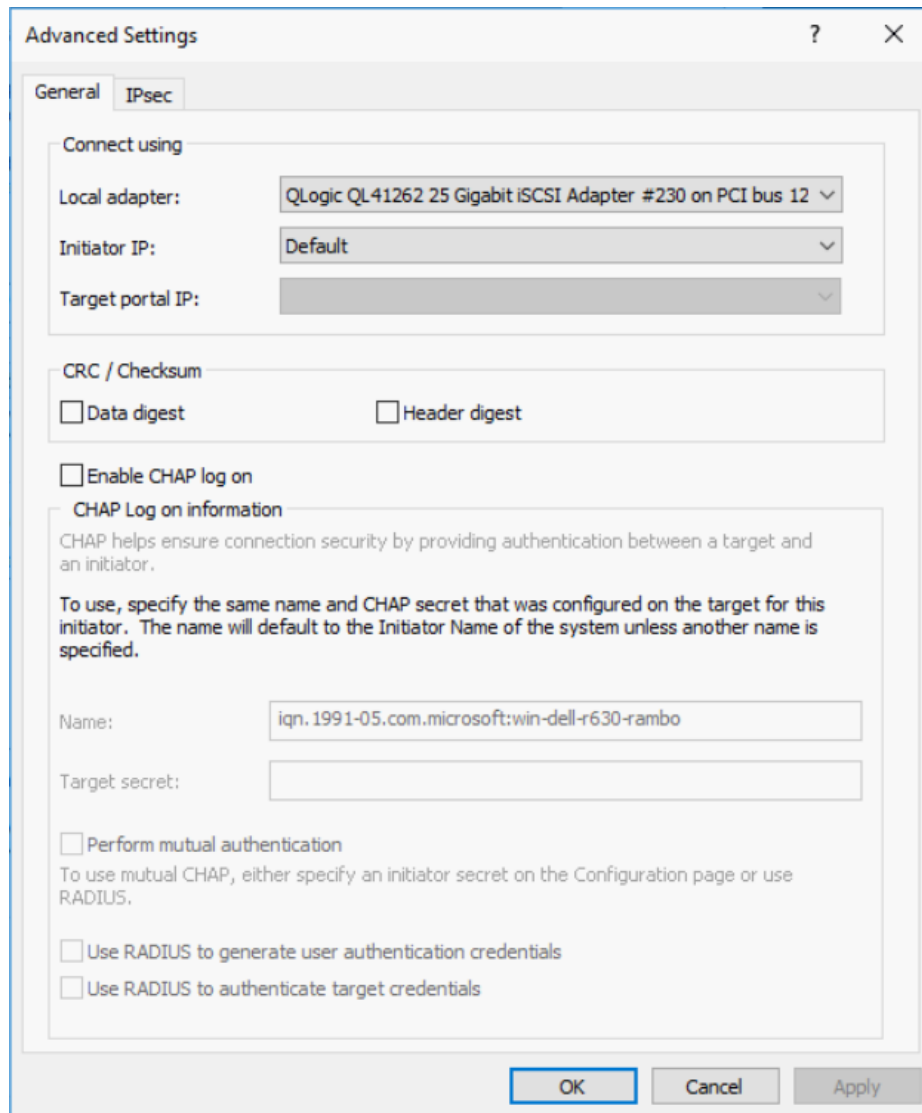

Figure 10-5. Selecting the Initiator IP Address
6. In the Advanced Settings dialog box (Figure 10-5), complete the following under **Connect using**: